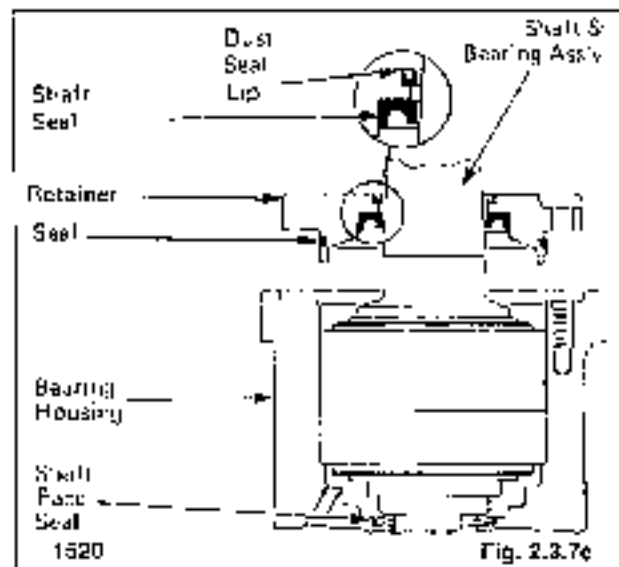

Fig. 2.3.7e
6. Install the retainer cover over the shaft with a twisting motion (fig. 2.3.7e). Be careful not to distort or damage the shaft seal during assembly. Damage to the shaft seal will cause external leakage.
11. Apply a light film of petroleum jelly to the housing seal and install the seal in the bearing housing (fig. 2.3.7e).